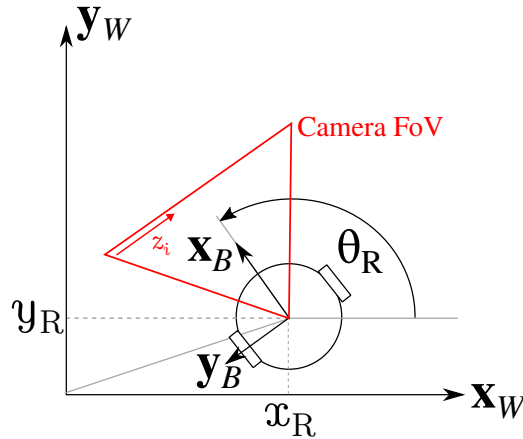

Figure 1: A two-wheel differential drive mobile robot with a front-facing 1D camera.
- i) Assuming the state $\mathbf{x}(t) = [x_R(t), y_R(t), \theta_R(t)]^T$ as the x-y position and orientation of the robot in a fixed world frame. The state will be estimated at discrete times t_k and will be written as $\mathbf{x}_k = [x_{R_k}, y_{R_k}, \theta_{R_k}]^T$. Write down the continuous-time kinematics as well as their discretization using Euler-forward discretization. The robot frame is defined with the x-axis pointing forward and the y-axis pointing to the left, as illustrated in Fig. 1. We also assume that in the discrete-time system, the angular increments $\Delta t \omega_j$ are affected by Gaussian noises η_r and η_l of standard deviation σ_ω .